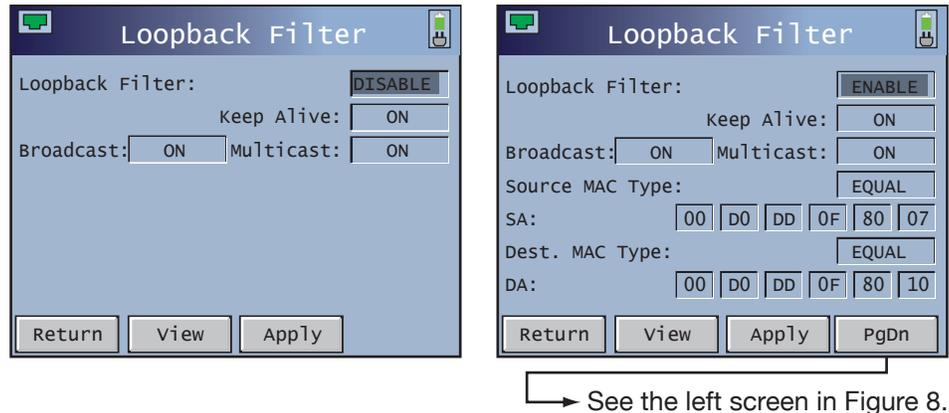

Figure 7 Loopback Filter Screens
The Loopback Filter screen displayed is dependent on the setting of Loopback Filter. DISABLE shown on the left in Figure 7, ENABLE shown on the right.
If Loopback Filter was set for ENABLE, continue with the rest of the settings shown in the right screen of Figure 7.
▶ See the right screen in Figure 7.